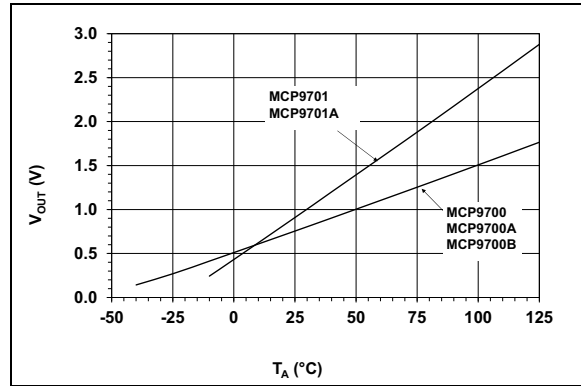

FIGURE 2-17: Output Voltage vs. Ambient Temperature.
3: The MCP9700/9700A/9700B and MCP9701/9701A family is characterized using the first-order or linear equation, as shown in Equation 4-2. Also refer to Figure 2-17.
- 3:** The MCP9700/9700A/9700B and MCP9701/9701A family is characterized using the first-order or linear equation, as shown in Equation 4-2. Also refer to Figure 2-17.
The Linear Active Thermistor™ IC uses an internal diode to measure temperature. The diode electrical characteristics have a temperature coefficient that provides a change in voltage based on the relative ambient temperature from -40°C to 150°C. The change in voltage is scaled to a temperature coefficient of 10.0 mV/°C (typical) for the MCP9700/9700A/9700B and 19.5 mV/°C (typical) for the MCP9701/9701A. The output voltage at 0°C is also scaled to 500 mV (typical) and 400 mV (typical) for the MCP9700/9700A/9700B and MCP9701/9701A, respectively. This linear scale is described in the first-order transfer function shown in Equation 4-1 and Figure 2-17.